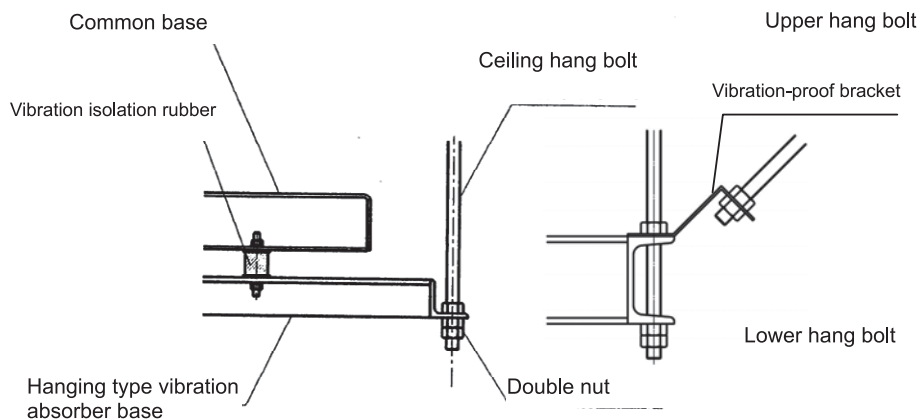

Figure 5 – Example of ceiling mounting
- (1) By connecting the fan's base to the hanging bolts that are embedded in the ceiling, horizontally suspend the fan. Ensure that the load of the fan is evenly distributed among all the hanging bolts.
- (2) Be sure to use hanging bolts that are strong enough to sustain the load (in terms of the strength of the bolt itself as well as the pre-installed condition).
- (3) After you have installed the fan, lock the nut on each hanging bolt to prevent them from coming loose.
- (4) To make the fan earthquake-resistant, firmly install the fan onto a section steel frame fixed onto a building structure.
- (5) As shown in Figure 5, firmly fix the hanging type vibration absorber base onto the ceiling hang bolts. To prevent the unit from vibrating horizontally, install a vibration-proof bracket at an angle onto each ceiling hang bolt using a continuous-thread stud, turn buckle, or other parts.